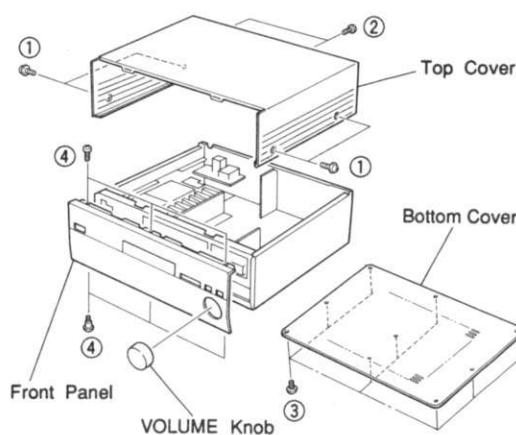

Fig. 1
- a. Remove 4 screws (①) and 2 screws (②) in Fig. 1.
- a. Remove 9 screws (③) in Fig. 1.
- b. Remove 6 screws (④) in Fig. 1.